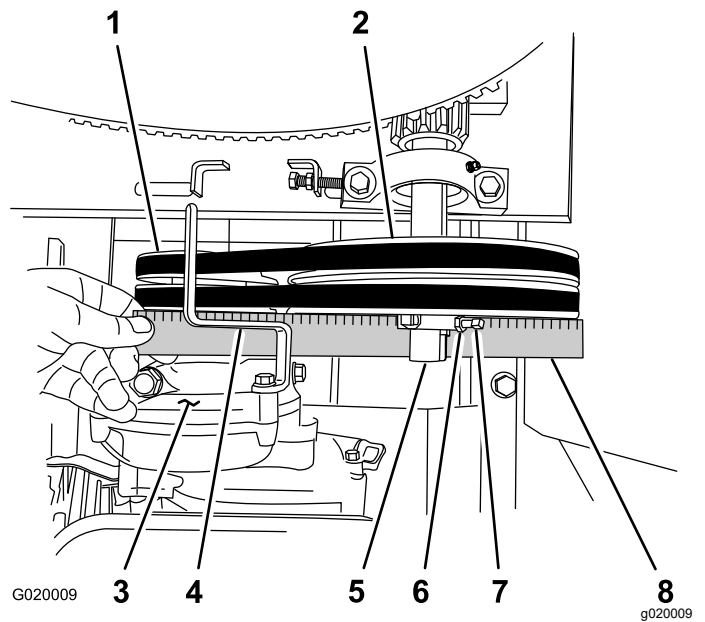

Figure 63
- D. Align a straightedge across the engine pulley and the idler pulley (Figure 63).
- E. If necessary, pivot the engine on the engine deck until the engine pulley and idler pulley are aligned to the straightedge (Figure 63).